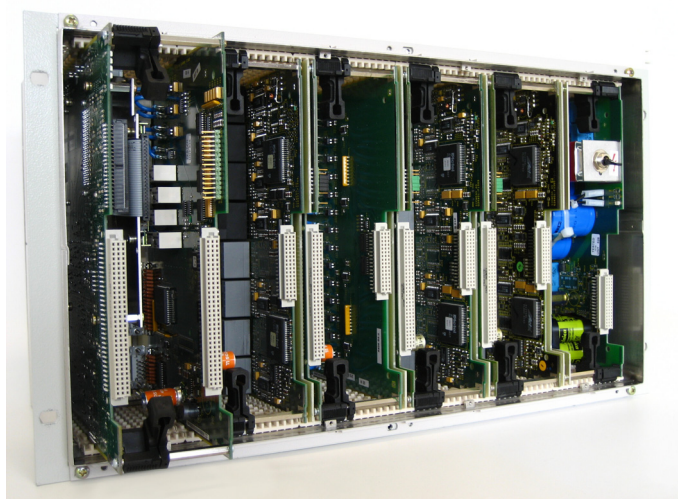

Figure 1-7 Pulling the CPU module out
- ❑ Pull the CPU module forward (see Figure 1-7).